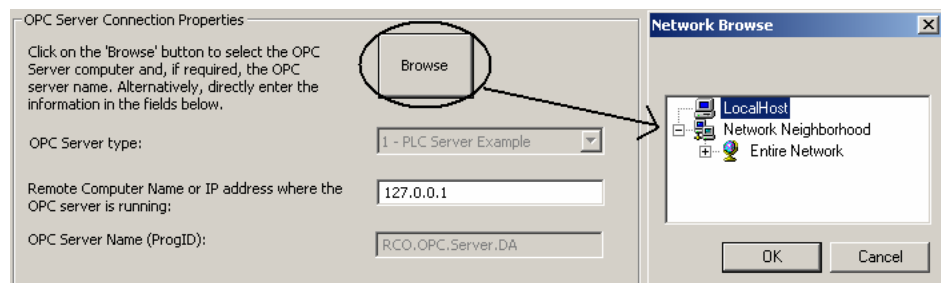

Fig. 12 Selecting the OPC server
2. Click the button "Browse" to show the server selection window (Fig. 12).